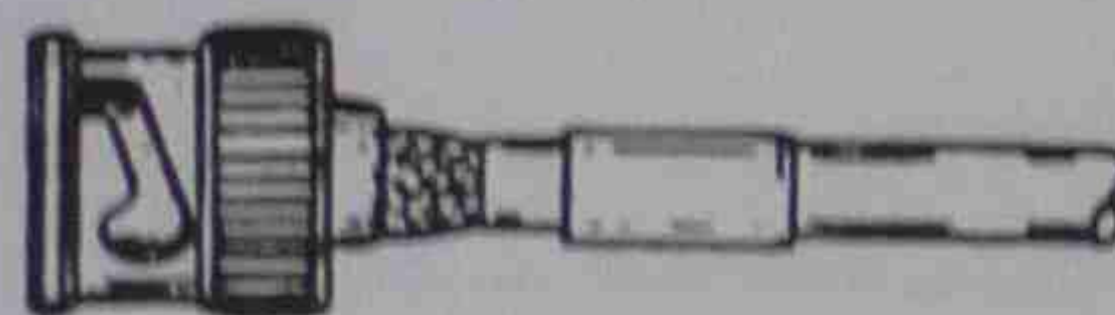

Figure 77 Assembling plug body
4. Insert the crimped centre contact into the plug body and fit the cable braid over the support sleeve as shown in Figure 77.